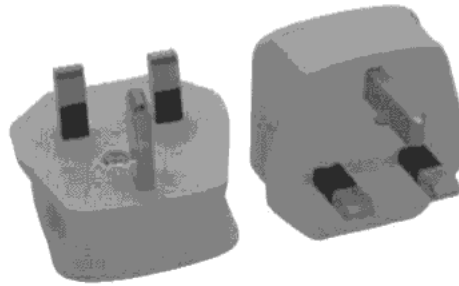

Figure 4
- 4 Figure 4 shows two views of a mains plug. The body of the plug is made from urea formaldehyde.